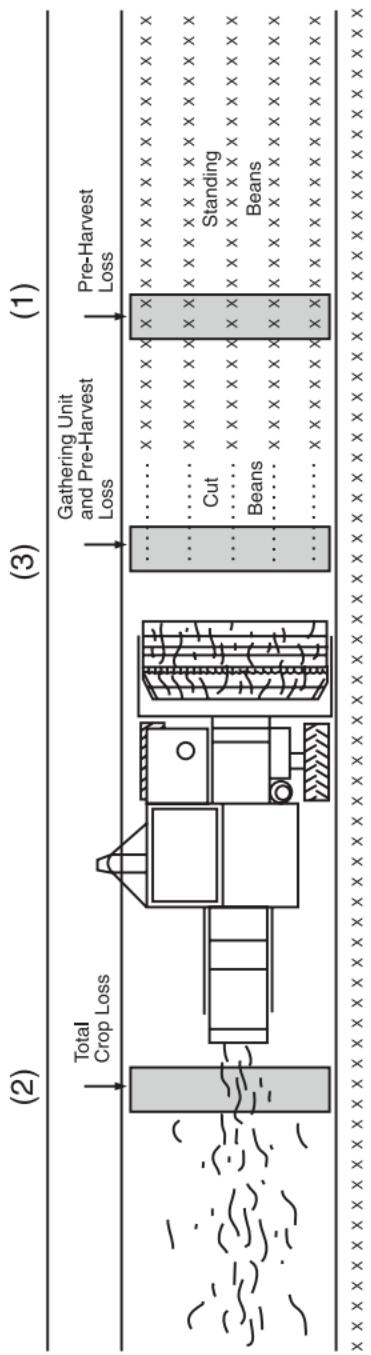

Figure 9. Location of areas to make seed loss counts.
Refer to Figure 9 (page 141) and record your seed counts in the "Loss" table (see below).
- 2) Using the 1-foot-square frame, count all beans in the frame as the frame is moved across the width of the cutter bar. Refer to Figure 9.
This is location 1 in Figure 9.
This is location 2 in Figure 9.